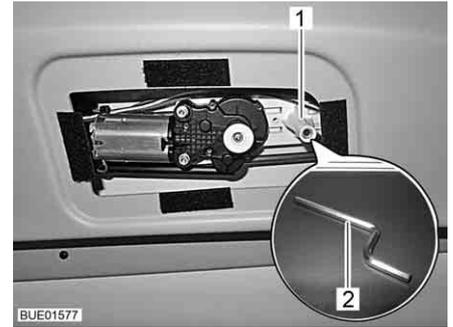

Fig. 35 Windscreen shade emergency release
- Insert the long arm of the hexagon spanner (Fig. 35,2) provided into the socket (Fig. 35,1).